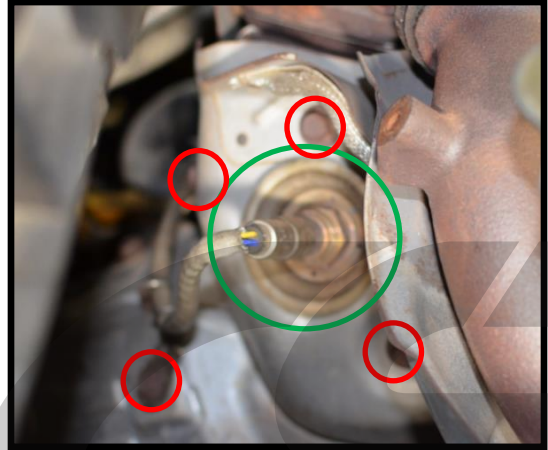

Figure 6a
- a) Remove the upper oxygen sensor using an oxygen sensor socket and 1/2" drive ratchet. **Circled in green in Figure 6a.**
- b) Remove the four 10mm bolts **circled in red** in **Figure 6a.** Then, remove the heat shield covering the downpipe nuts.